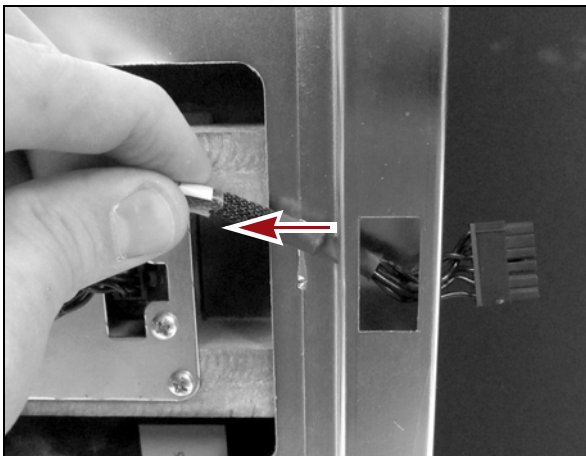

Figure 27 Route the free end of the cable through the front panel skin.
- a. Route the free end of the cable through the holes in the side of the skin (see Figure 27).